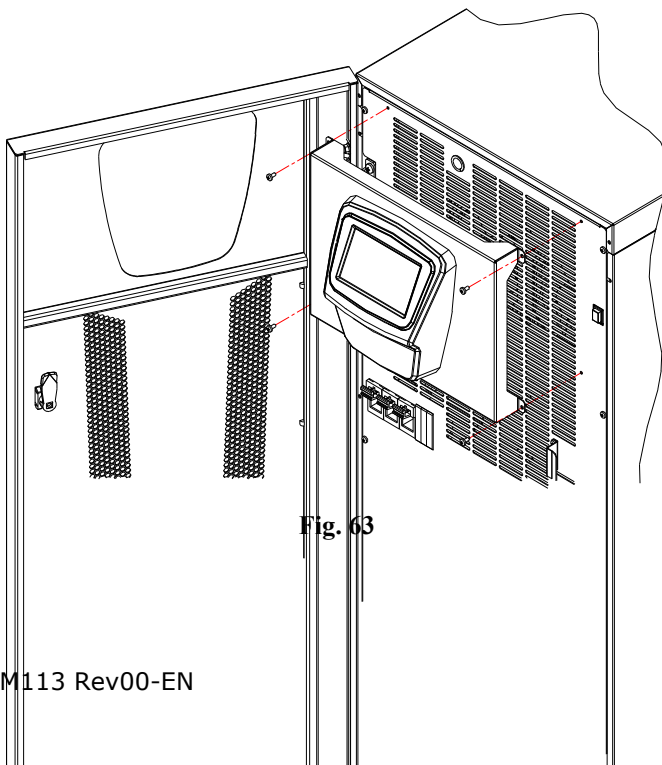
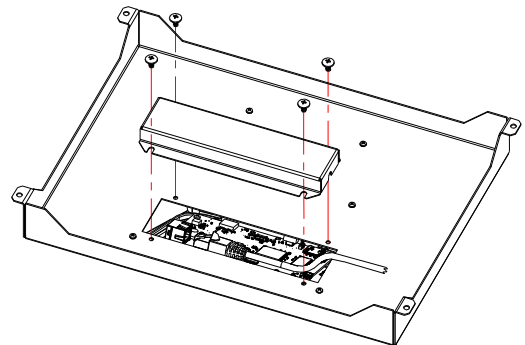

Fig. 63
Fig. 64
- **XTD:** remove the n°4 screws from the metallic display support (Fig. 63). Remove n°4 screws from the cable cover (Fig. 64), then remove the RJ45 cable.